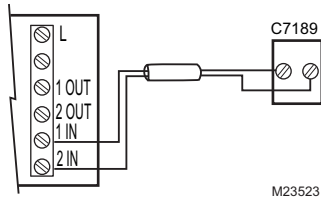
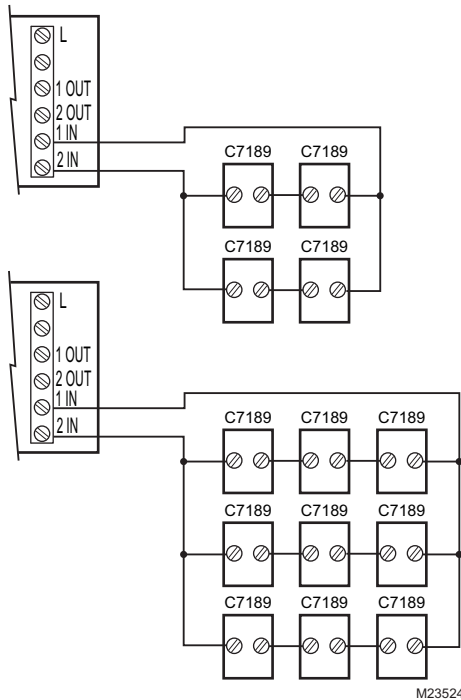

Fig. 26. Wiring a single C7189U1005 Indoor Sensor.
Fig. 27. Wiring Multiple C7189U1005 Sensors.
- Wire C7189U1005 Indoor Sensor to IN1 and IN2 terminals on the EIM. For an example of general wiring of C7189U1005, see Fig. 26 to wire one sensor and Fig. 27 to wire multiple sensors.